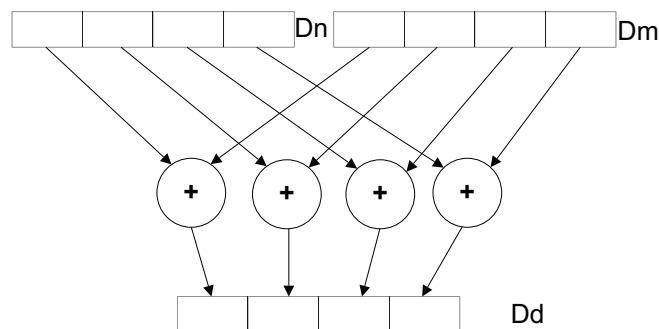

Figure 1-1 Four simultaneous additions
The single instruction operates on all data values in the large register at the same time as shown in Figure 1-1. This method is faster.
- The addition operations in Figure 1-1 are truly independent.
- Figure 1-1 shows a 64-bit register holding four 16-bit values, but other combinations are possible for NEON registers: